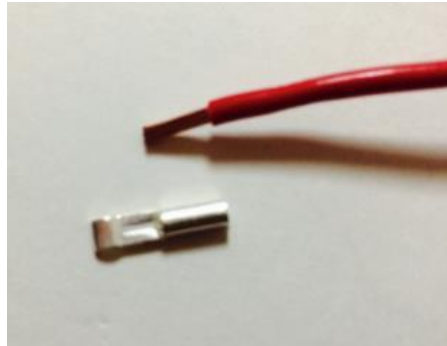

Figure 14: Strip the wires.
3. Strip the wire to the Anderson PowerPole specs (Figure 14).